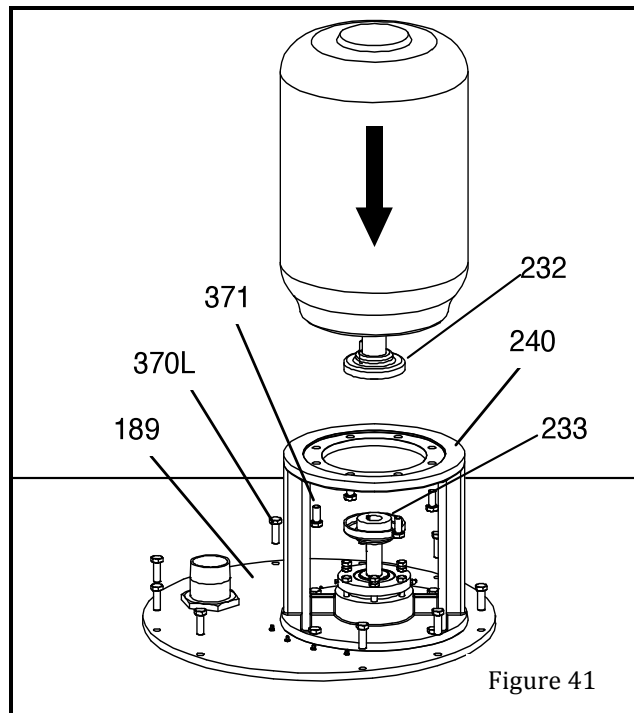

Figure 41
11. Replace the pump half-coupling hub (233).
12. Install motor and attach coupling (Figure 41).